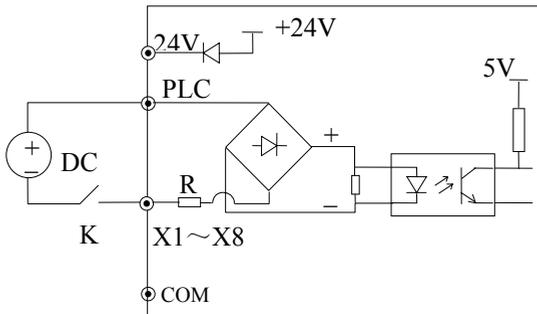

Fig 2-20 Use an external supply
- 2) If an external power supply is used, then use the Wiring shown in Figure 2-20 (Attention: be sure to disconnect the cable JP1 between PLC and 24 V for models of S2R4GB~3004GB; and disconnect the wiring cable between PLC and 24 V for models of 35R5GB/37R5PB~3500G).